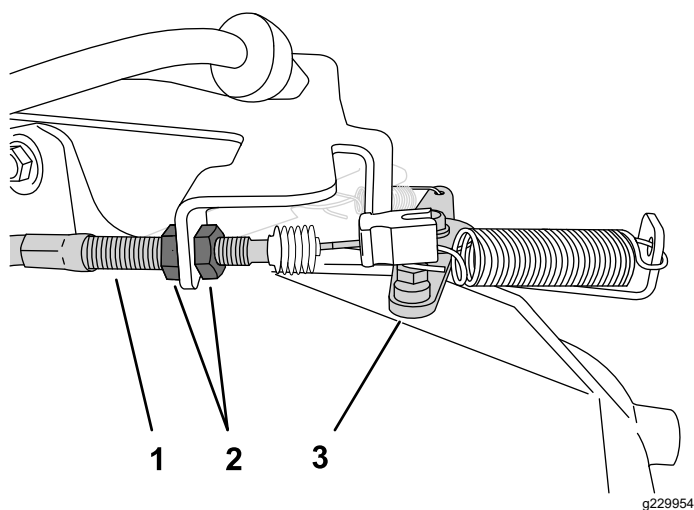

Figure 42
2. At the throttle cable housing, loosen the forward jam nut and tighten the rear jam nut to increase the low idle (Figure 42).